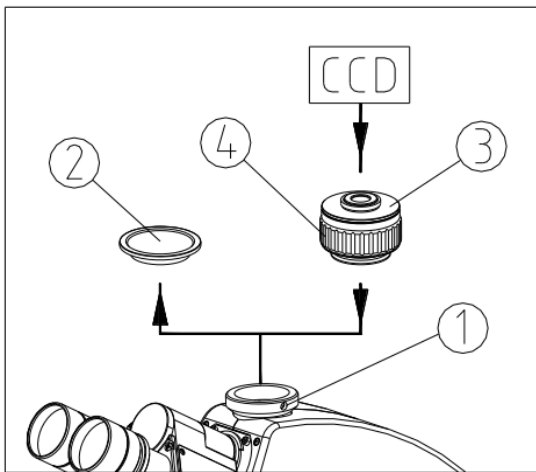

Fig.14
1. Loosen the lock screw1 of trinocular head, and take out the dust-cover2 (See Fig. 14).